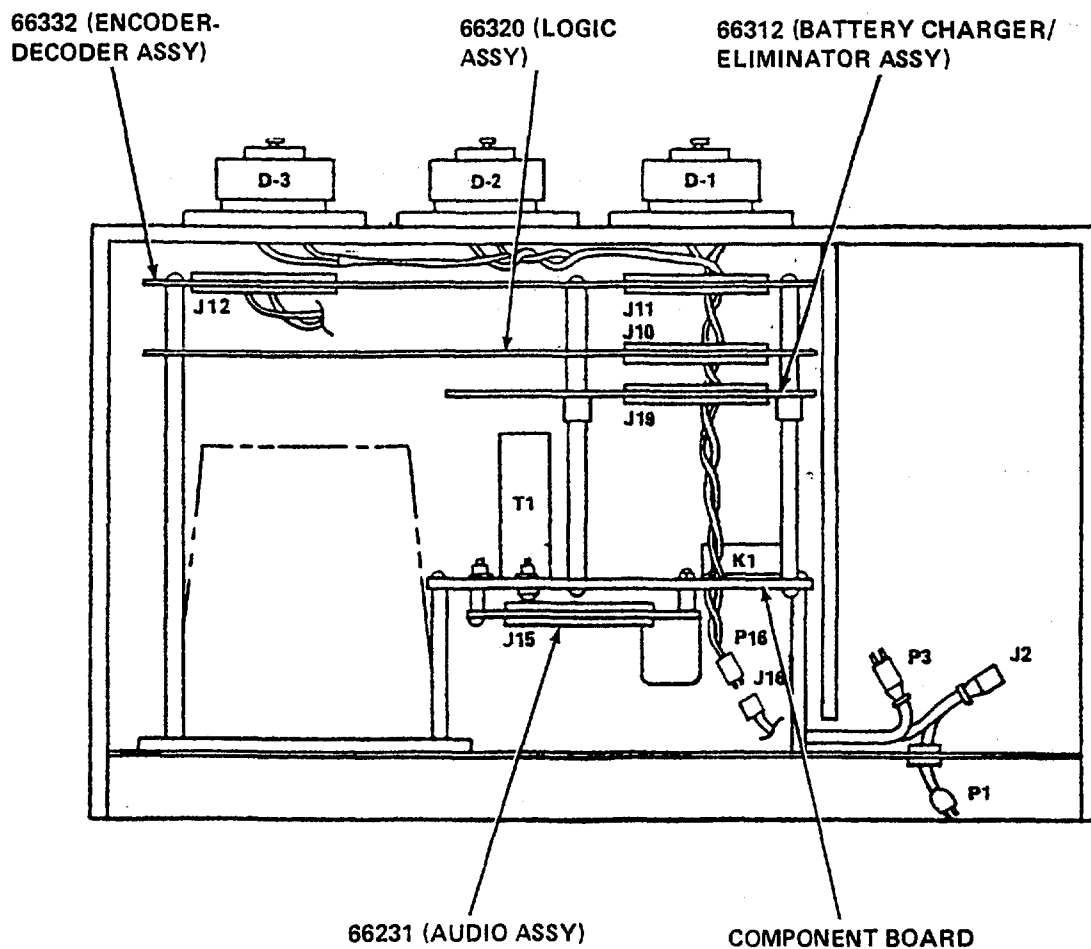

Figure 5-16. Printed Circuit Assembly Layout.
- (5) Replace speaker. (figures 5-16, 5-17, and 5-18).
- (6) Replace press-to-talk and press-to-cross connect switches. (figures 5-16, 5-17, and 5-18).
- (7) Replace switches S9 and S10. (figures 5-16, 5-17, and 5-18).
- (8) *Replace R3 potentiometer.* (figures 5-16, 5-17, and 5-18).
- (9) *Replace K1 relay.* (figures 5-16, 5-17, and 5-18).
- (10) *Replace common mode assembly (66291).* (figures 5-16, 5-17, and 5-18).
- (11) *Replace audio amplifier assembly (J15).* (figures 5-16, 5-17, and 5-18).